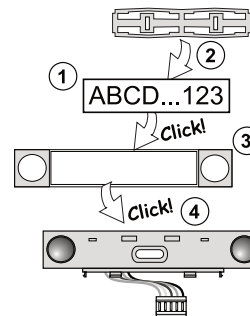

Figure 3: Insertion of a label into a control segment
7. Connect the segment wires to the internal connector of the module (5).
- a. When the device is switched on, the yellow backlit activation button (3) starts flashing repeatedly to indicate that the module has not been enrolled into the system.
- c. Press the backlit activation button (3) – the access module is thus enrolled and the yellow LED indicator goes off.
10. When you have completed the installation, insert descriptive labels onto the segment transparent covers and close them, see figure 3. Label printing is a part of the F-Link software (**Devices** window, at the module position – **Internal settings**).